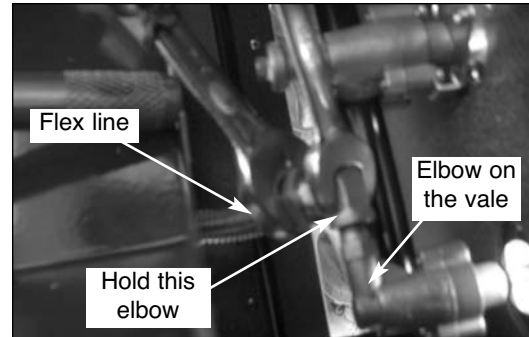

Fig 7
7. Let a friend help you to pull the front control panel away from the grill and hold it. Using a wrench, hold the elbow on the rear IR burner valve and use another wrench to disconnect the flex line. (See Fig. 7)
12. Hold the elbow on the rear IR burner valve and use a 3/4 wrench to tighten the flex line on it. (See Fig. 7)